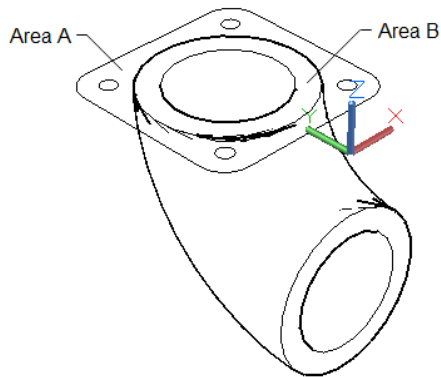
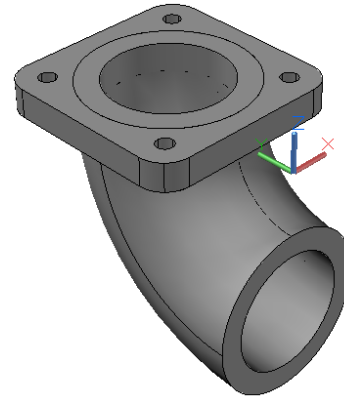

Figure 3-130 Two areas to presspull
Figure 3-131 Resulting model after Step 15
14. Choose the **Presspull** tool from the **Modeling** panel and then click inside the rectangular area at the location shown as Area A in Figure 3-130. Next, move the mouse in the upward direction, enter the value **5** at the Command prompt, and press ENTER.
15. Again, choose the **Presspull** tool and pull the area shown as Area B in Figure 3-130 by the same value as specified in Step 14. The resulting model should look similar to the one shown in Figure 3-131.